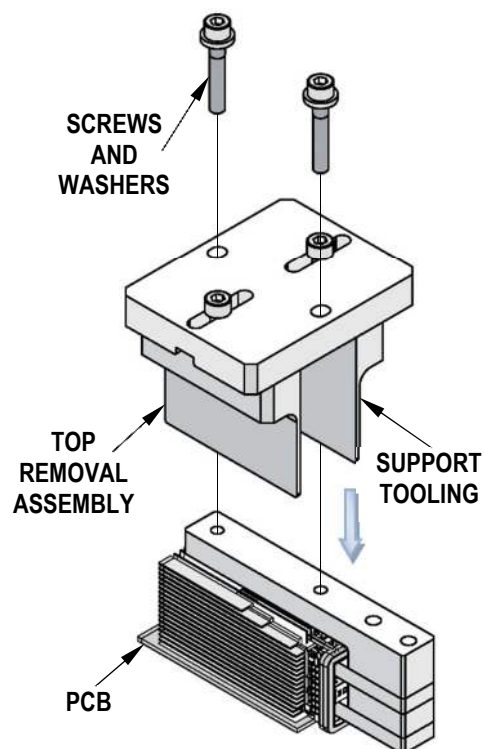

Figure 4
4. Place the top removal assembly over the support tooling and the cage assembly, aligning the screw holes of the top removal assembly with the threaded holes in the support blocks. See Figure 4.